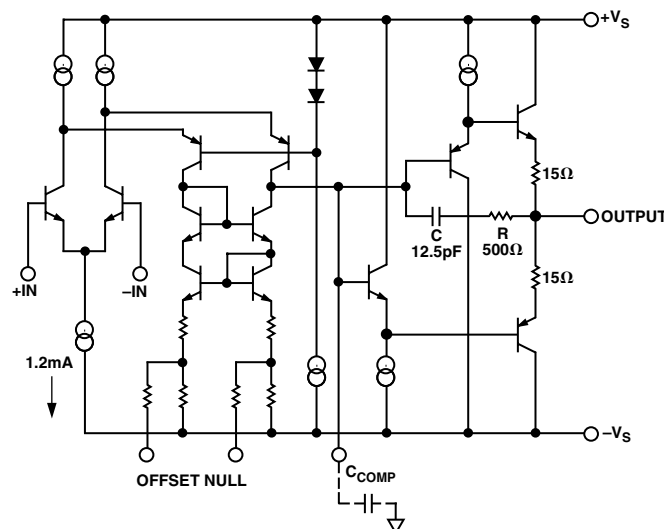

Figure 6. Simplified Schematic
The AD829 is fabricated on Analog Devices' proprietary complementary bipolar (CB) process, which provides PNP and NPN transistors with similar  $f_T$ s of 600 MHz. As shown in Figure 6, the AD829 input stage consists of an NPN differential pair in which each transistor operates at 600  $\mu$ A collector current. This gives the input devices a high transconductance, which in turn gives the AD829 a low noise figure of 2 nV/ $\sqrt{\text{Hz}}$  @ 1 kHz.
An RC network in the output stage (Figure 6) completely removes the effect of capacitive loading when the amplifier is compensated for closed-loop gains of 10 or higher. At low frequencies, and with low capacitive loads, the gain from the compensation node to the output is very close to unity. In this case, C is bootstrapped and does not contribute to the compensation capacitance of the device. As the capacitive load is increased, a pole is formed with the output impedance of the output stage this reduces the gain, and subsequently, C is incompletely bootstrapped. Therefore, some fraction of C contributes to the compensation capacitance, and the unity gain bandwidth falls. As the load capacitance is further increased, the bandwidth continues to fall and the amplifier remains stable.